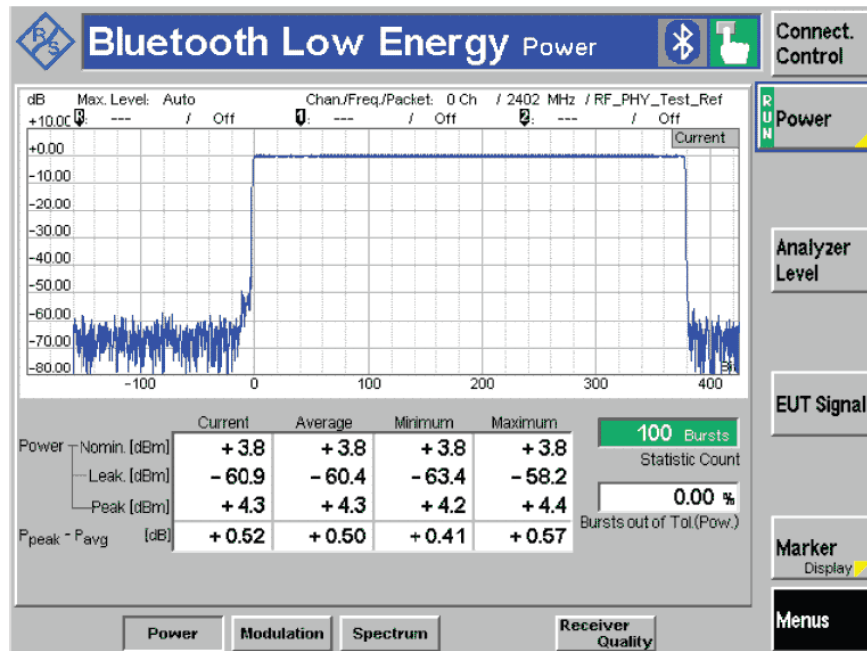

Figure 6. Starting the TX output power test
The  $P_{avg}$  values are found in the “Power – Nomin.[dBm]” row in Figure 6.
The  $P_{peak}$  values are found in the “Power –  $P_{peak}$  [dBm]” row in Figure 6.
- On the CBT, select “Connect. Control” in the upper right corner (Figure 6). A new window appears. In this window, you can enable the test mode and modify various parameters to suit various test configurations. Make sure the “Connection” tab is selected (it is located in the bottom left corner on the display).